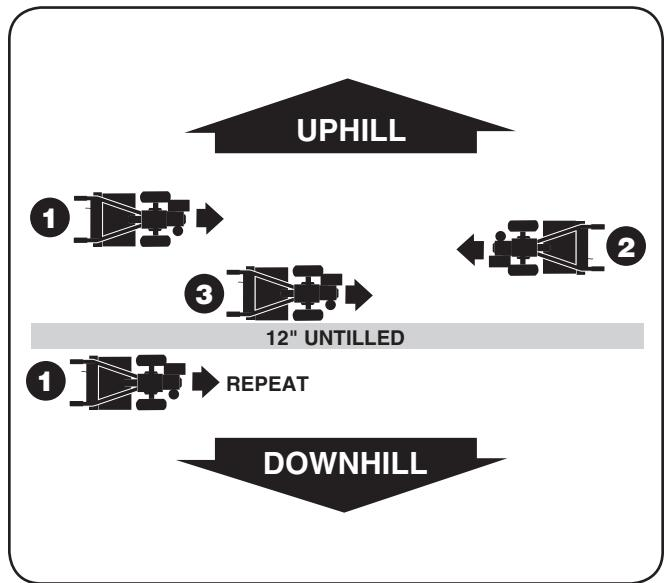

Figure 5-8
- To create a terrace, start at the top of the slope and work down. Go back and forth across the first row as shown in Figure 5-8.